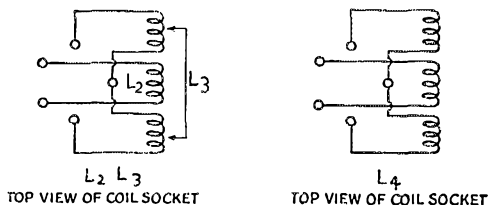

Fig. 2 — Coil connections and data.
- $L_6$  — 18 turns No. 30 d.s.c., close-wound, on same form as  $L_5$ ; see Fig. 2.
Reasonable care in following the diagram should ensure the receiver's working immediately when it is finished. The method of winding coils is indicated in Fig. 2; if the connections to the circuit are made as shown there will be no trouble in obtaining the necessary oscillation. Both coils on each form should be wound in the same direction.
All coils wound on  $1\frac{1}{2}$ -inch diameter forms (Hammarlund SWF-4). Grid windings on coils B-E, inc., spaced to occupy a length of  $1\frac{1}{4}$  inches; grid winding on coil A close-wound. Antenna-ticker coils all close-wound, spaced  $\frac{1}{4}$  inch from bottom of grid winding. See Fig. 2.
Fig. 2 — How the coils for the two-tube super are wound. The bottom end of the i.f. coil in this drawing is the end mounted to the chassis.  $L_5$  and  $L_6$  are wound in the same direction.
L1 — 21 turns No. 24 d.s.c., close-wound,  $\frac{1}{2}$ -inch diam. (See Fig. 2 for specifications of L2 and L3.)